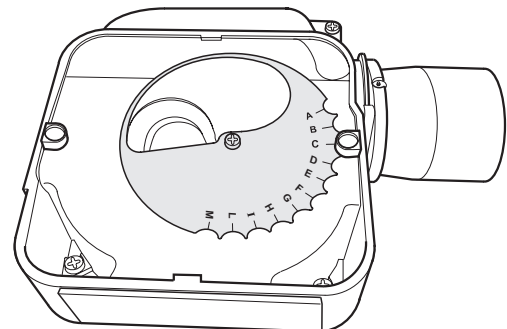

Fig. 23 - 50/70 burner air adjuster disc (shown set to position 'C')
4. The secondary air shutter disc is factory set in position 'C' – i.e. with the cut-out marked C located against the die-cast boss on the fan housing. See Fig 23.